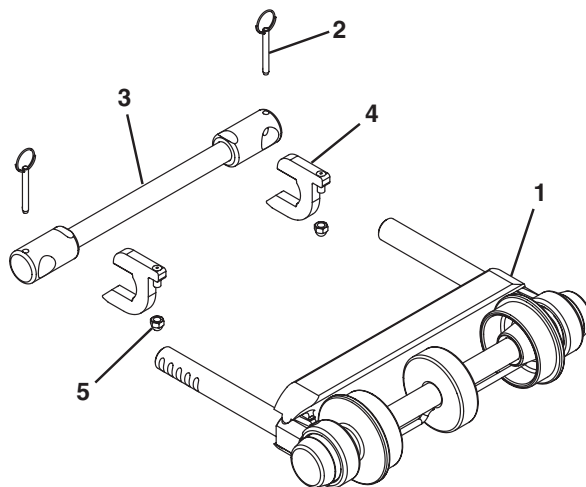

Figure 19
Typical Tip Up Tail Components (**Figure 19**)
*Adjust the acorn nuts (**Figure 19, item 5**) on the key stops (**Figure 19, item 4**) to raise or lower the tip up tail assembly.*